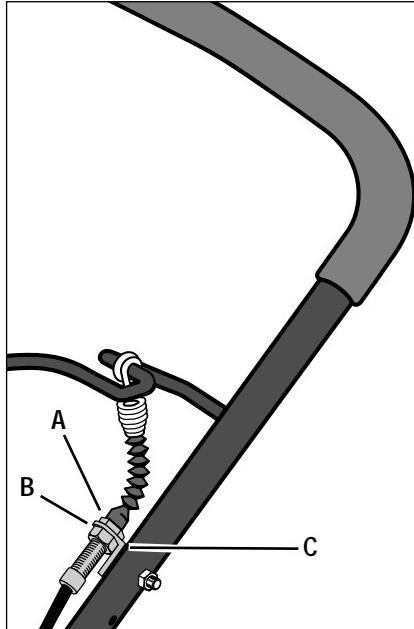

Figure 5-2: Belt tension adjustment.
- D. To make an adjustment to belt tension, shut off the engine, let all moving parts stop completely, and adjust the position of the two nuts on the stud shown in Figure 5-2 as described next:
1. To tighten belt tension, close the bail, move the upper nut (A, Figure 5-2) upward, then move the lower nut (B) upward. To loosen belt tension, move the lower nut down and then the upper nut down. Tighten both nuts securely.
2. If adjustments over time move the nuts to the top of the threaded stud, the cable bracket (C) can be moved down the handlebar to the next hole. This permits a new range of adjustments.